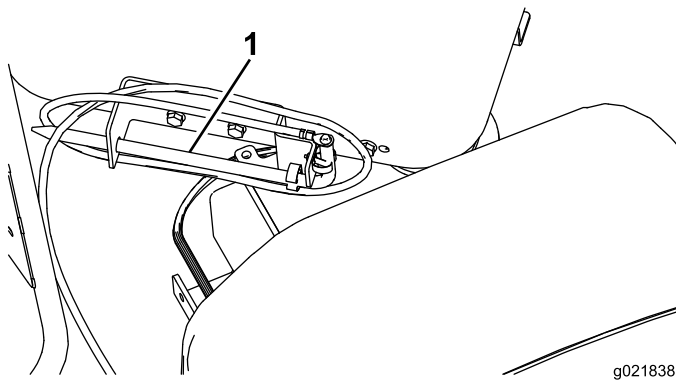

Figure 83
1. Remove the grounding stake from the holder on the side of the operator platform (Figure 83).
2. Move the drill carriage fully down the drill frame and spray the spindle threads with thread joint compound, then return the drill carriage to the upper end of the frame (Figure 83).